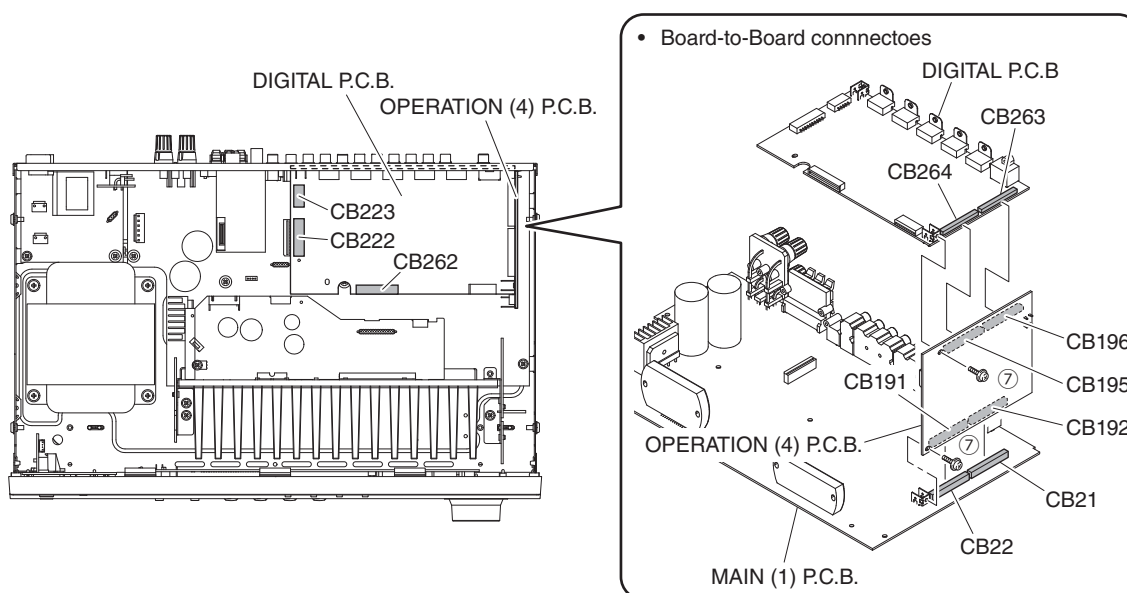

Fig. 2
- Remove CB222–223 and CB262. (Fig. 2)
- Remove the DIGITAL P.C.B. which is connected directly to the OPERATION (4) P.C.B. with board-to-board connectors. (Fig. 2)
4. Removal of OPERATION (4) P.C.B.
- Remove CB194. (Fig. 2)
- Remove the OPERATION (4) P.C.B. which is connected directly to the MAIN (1) P.C.B. with board-to-board connectors. (Fig. 2)